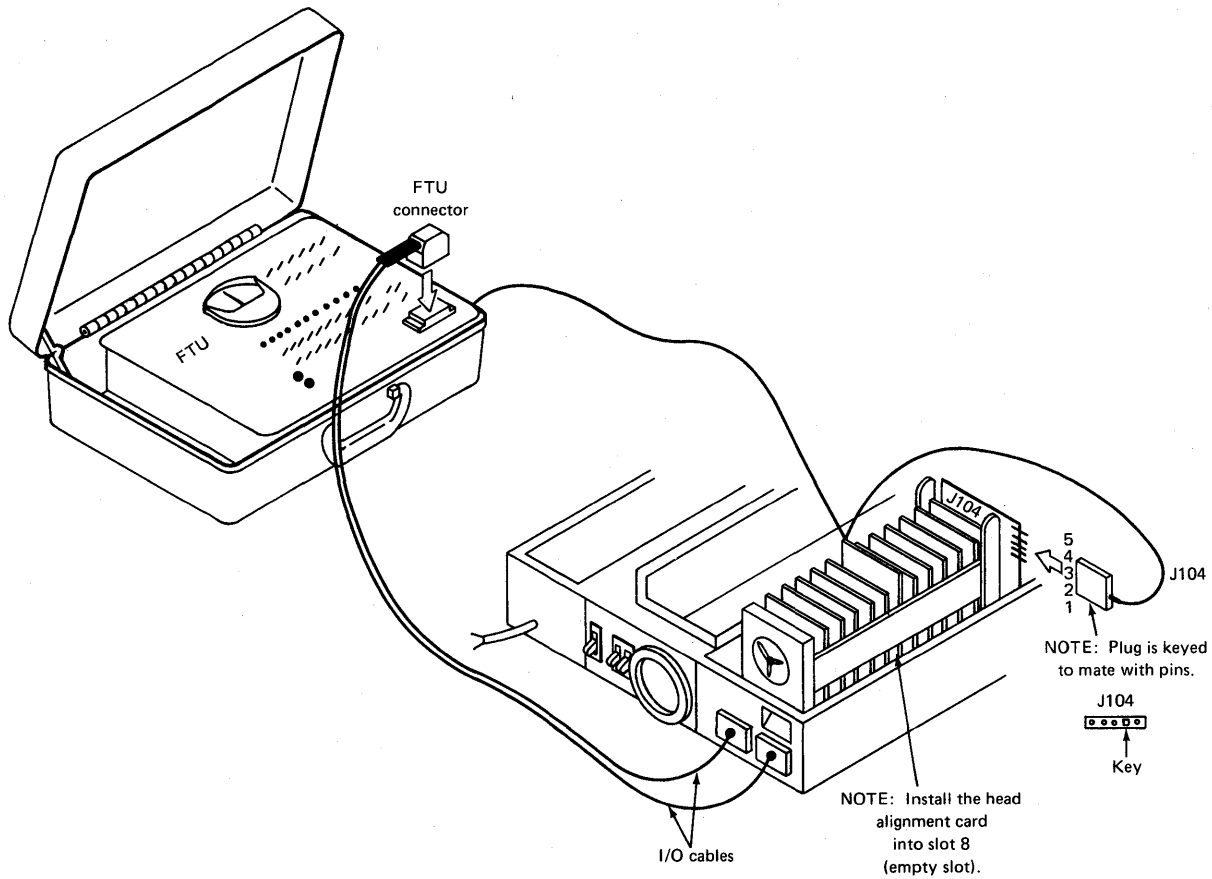

Figure 56. FTU installation
- _____ Step 5. Remove the I/O cable from inside the cover of the FTU, and attach one end to the FTU operator's panel and the other ends to the disk drive I/O connectors. (See figure 56.)
_____ Step 7. Plug the small connector into the small tiny pins on the side of card J104 (see figure 56).